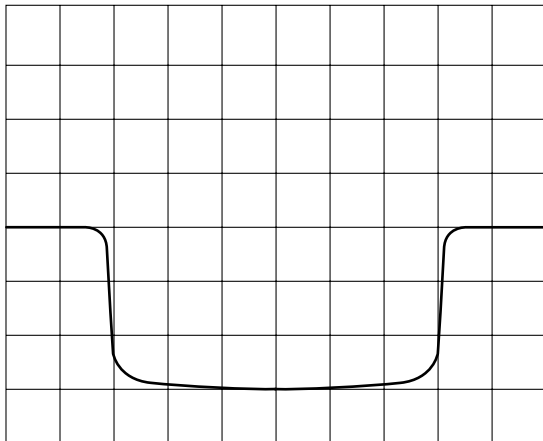

Fig.3
6) Adjustment of oscilloscope (See Figure 3.)